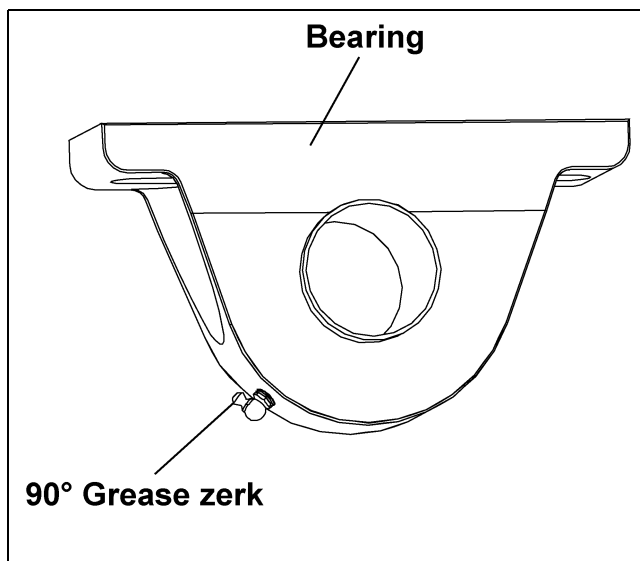

Figure 5I
- Replace standard grease zerks with 90° grease zerks on both bearings. Make sure the 90° grease zerk is turned as shown in Figure 5I, so the zerks are accessible from the center of the tractor drive stand.